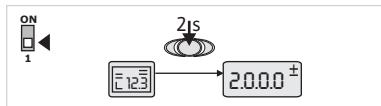

Fig. 29: Standard menu mode
**Standard behaviour:** The display changes to menu mode. Menu number <2.0.0.0> is displayed (Fig. 29).